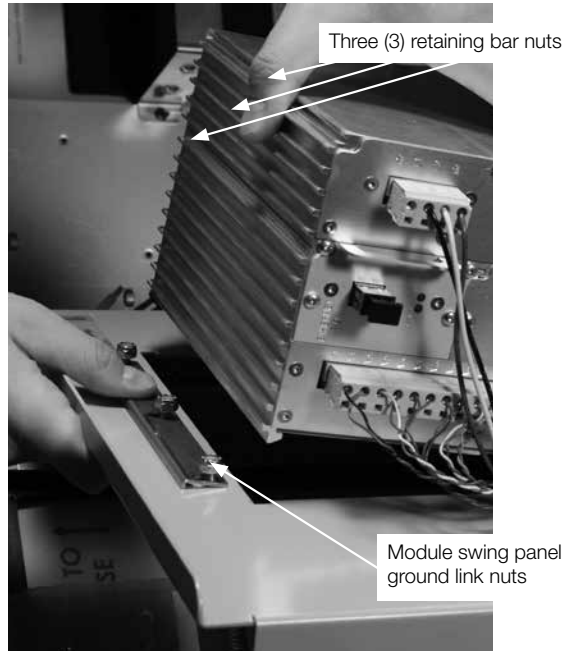

Figure 47. Loosen retaining bar nuts and tilt module back
- Loosen, but do not remove, the module swing panel ground link 3/8" nuts with 3/8" nut driver (Figure 47).
- Use a 1/4" nut drive to loosen, but not remove, the three (3) nuts from the retaining bar (Figure 47).
6. Tilt back, but do not remove, the module from the swing panel (Figure 47).
14. Torque the three (3) nuts to 24 in.-lbs. (Figure 47).
4. Remove all wiring connections by unplugging each plug assembly from the side of the module (Figure 47).
5. Loosen, but do not remove, the module swing panel ground link 3/8" nuts with 3/8" nut driver (Figure 47).
6. Use a 1/4" nut drive to loosen, but not remove, the three (3) nuts from the retaining bar (Figure 47).
6. Torque the three (3) nuts to 24 in.-lbs. (Figure 47).